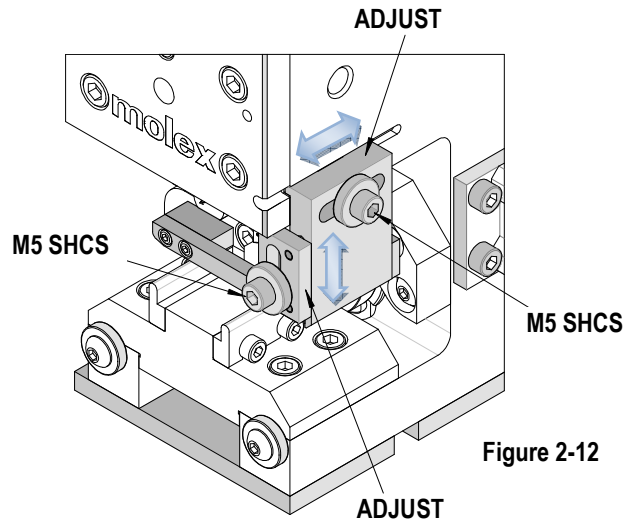

Figure 2-12
3. To adjust the stripper in and out, use a 4mm hex wrench to loosen the M5 SHCS on the side of the stripper. Move the stripper toward the punches, but not too close or it could interfere with the ram stroke. See Figure 2-12. Tighten the M5 SHCS when adjustment is complete.